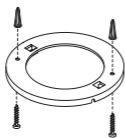
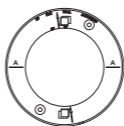

FIGURE 4
FIGURE 5
3. After selecting the proper smoke alarm location as described in section 1, attach the mounting plate to the ceiling as shown in figure 4. For wall mounting see figure 5. Place mounting plate